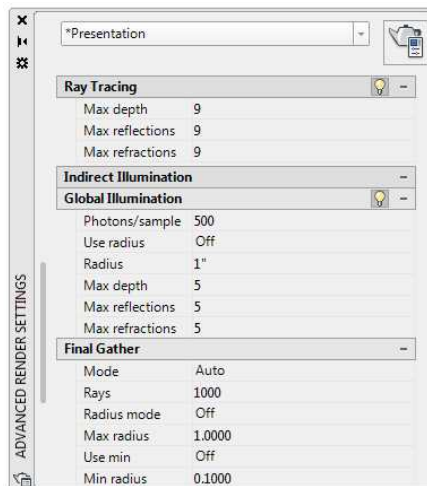

FIGURE 17.21: Turning on Global Illumination
- Open the Advanced Render Settings palette again, and then click the lightbulb icon next to Global Illumination in the Indirect Illumination drop-down list (see Figure 17.21).